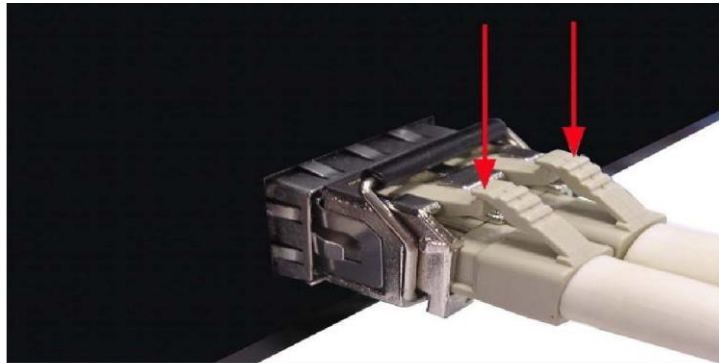

Figure 2.9
1. Press the upper side of the LC connector from the transceiver and pull it out to release as shown below in *Figure 2.9*.